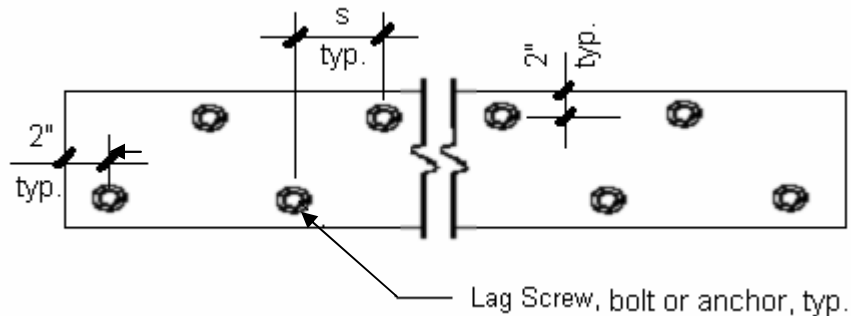

FIGURE 16: Residential Deck Ledger Board Typical Anchor Layout
Ledger board anchors shall be spaced to comply with Table 5 and Figure 16. All fasteners shall be installed with washers complying with General Note 2 and must be thoroughly tightened. The adequacy of connections shall be verified by the City Building Inspector at the time of the framing inspection. If a ladder is required to access the ledger board, **the permit holder shall have a ladder available on site for the City Building Inspector.**
- Lag screws and bolts shall be staggered as set out in Figure 16.